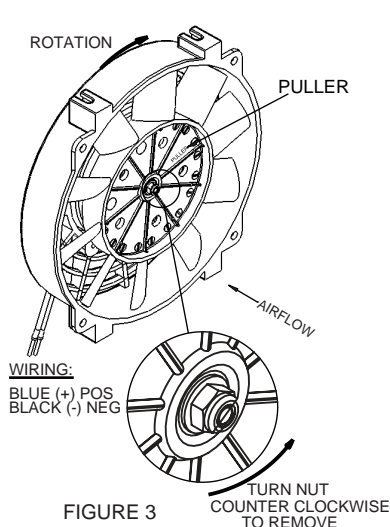

FIGURE 3
1. Disconnect power to the fan. Remove locknut by turning, counter clockwise as shown in Figure 3